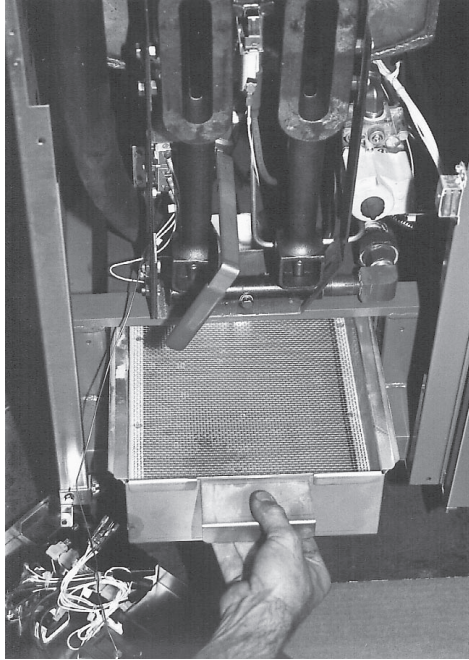

Fig. 48
3. Support box with one hand on the under side and remove box from the cooker. (Fig. 48)
1. Open cabinet door, empty and remove scrap box drawer. (See Fig. 48)